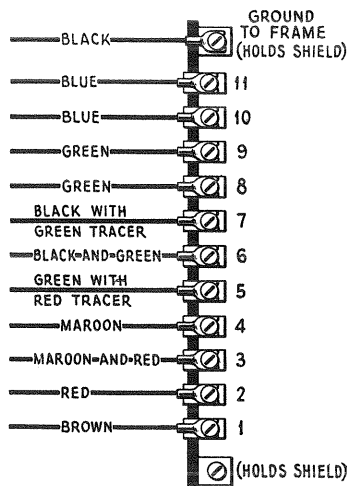
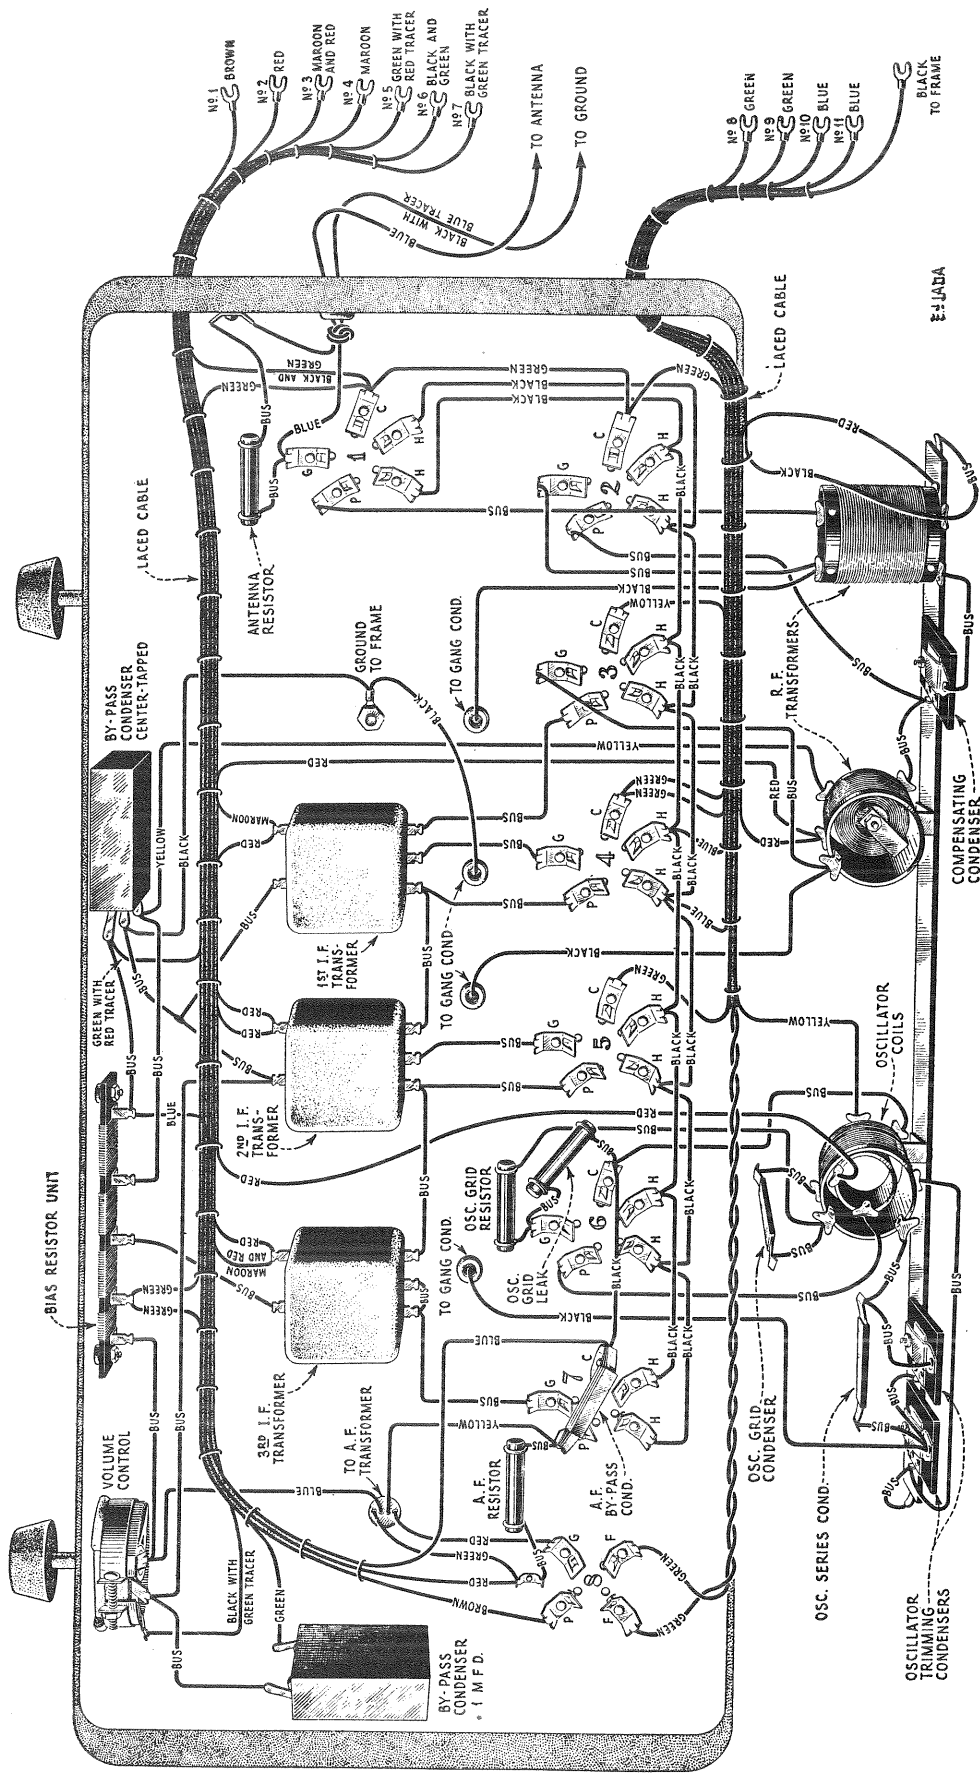
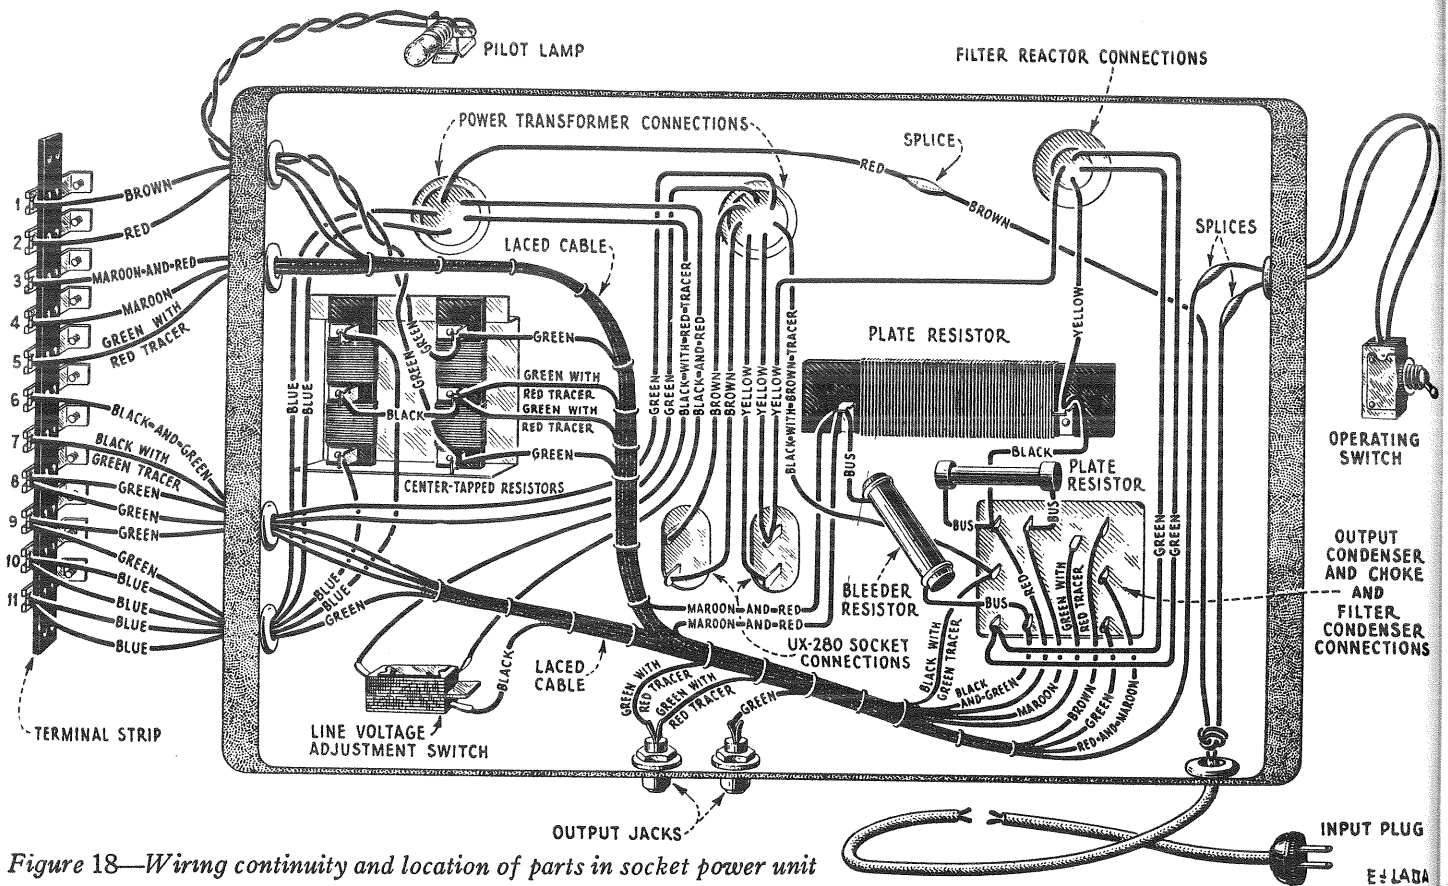

Figure 15—S.P.U. terminal strip with color scheme of connections
Figure 17—Wiring continuity and location of parts in receiver assembly
Figure 18—Wiring continuity and location of parts in socket power unit
A simple method of locating a shorted transformer is to use a resistance bridge or the resistance measuring method described in “Radiola 33 Service Notes.” The approximate transformer primary D.C. resistance is 20 ohms; secondary 100 ohms. Due to the circuit arrangement it will only be possible to get a reading of 50 ohms on the secondary as the end connection goes to the neutralizing condenser and the reading must be made at the center tap connection. This test can be made from the underside of the chassis. (See circuit diagram Figure 17.)
The following tests will show complete continuity for the receiver assembly (Figure 17) and S.P.U. (Figure 18). Disconnect the antenna and ground leads; the cable connecting the S.P.U. to the receiver assembly; and the A.C. supply cord at its outlet.
A pair of headphones with at least  $4\frac{1}{2}$  volts in series or a voltmeter with sufficient voltage to give a full scale deflection when connected directly across the battery terminals should be used in making these tests. The receiver sockets, numbers and lugs used in these tests are shown in Figures 17 and 19. The S.P.U. terminal numbers are shown in Figures 15 and 18.
- (g) Remove the old volume control and fasten the new one in position by means of the two machine screws and nuts, and replace the three soldered connections. The correct connections of these leads are shown in Figure 17.
- (e) Resolder all connections in their correct position on the assembly. This is shown in Figure 17.
- (d) Remove the old Radiotron socket and fasten the new one in position by means of screws, nuts and washers. Resolder all connections and replace the R.F. assembly if removed. The correct connections are shown in Figure 17.